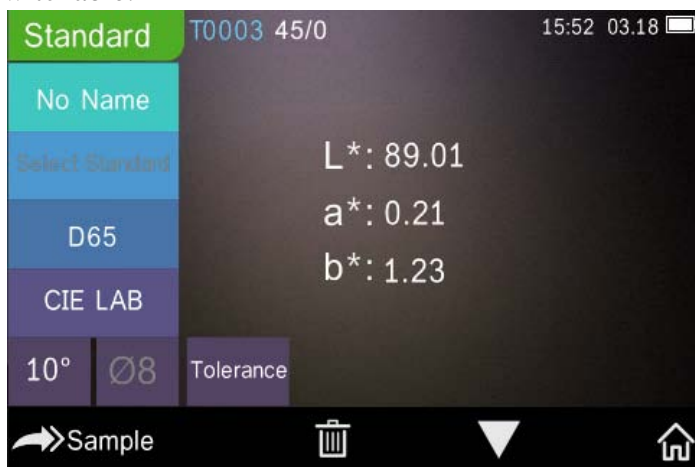
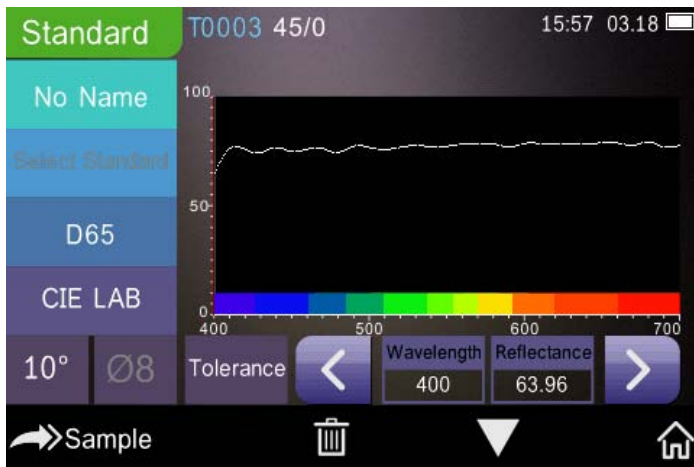
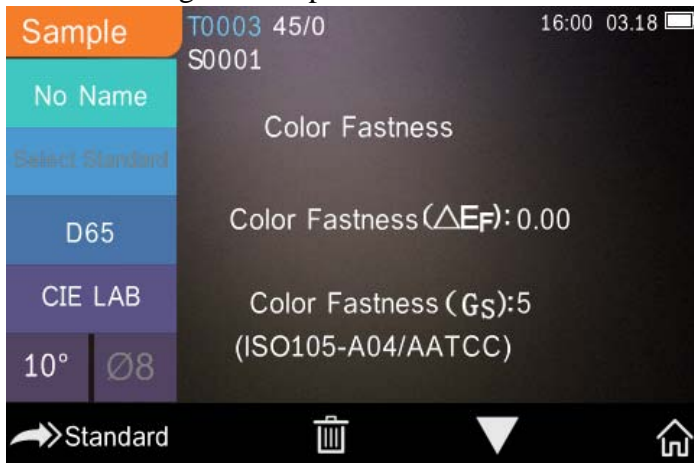
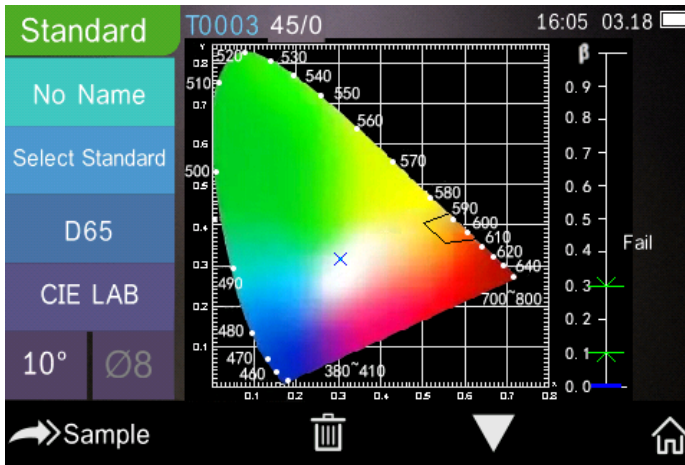

Figure 7 Chroma measurement
Figure 8A Spectral Reflectance
Figure 9 Color Index
Figure 8B Traffic sign information
As shown in Figure 7, it is working condition area at the top of measurement interface, displaying the status of measurement mode (SCI/SCE), Bluetooth and UV conditions. At the left side, it is shortcut display, it could switch different modes by pressing different icons. At the middle, it displays different chromatic data according to different setting of color formula. It is operation buttons area at the bottom, which could operate the data by pressing the different buttons. Figure 8A is spectral reflectance interface and Figure 9 is color index interface. Click “▼” to do quick switchable.
If the measurement of traffic signs in the system settings is off, the "Select Standard" in Figure 7 will be gray and there will be no response by clicking the shortcut key. If the measurement of traffic signs is on, the "Select Standard" in Figure 7 will display normally, and clicking the shortcut key will enter the selection interface of traffic signs.
The spectral reflectance interface of Figure 8A will also become traffic sign information, as shown in Figure 8B.
16) β : the luminance factor of traffic signs; it will show “Pass” when the measured value is within the set range, otherwise, it shows “Failure”, as shown in Figure 8B.
Click “▼” to turn the page, and check whether the chromate coordinate of the measured sample is within the polygon of the traffic sign standard and whether the β value is under the allowable range of the traffic sign standard as shown in Figure 8B. It will show “Pass” only if both items meet the requirements, otherwise it will display “Fail”.